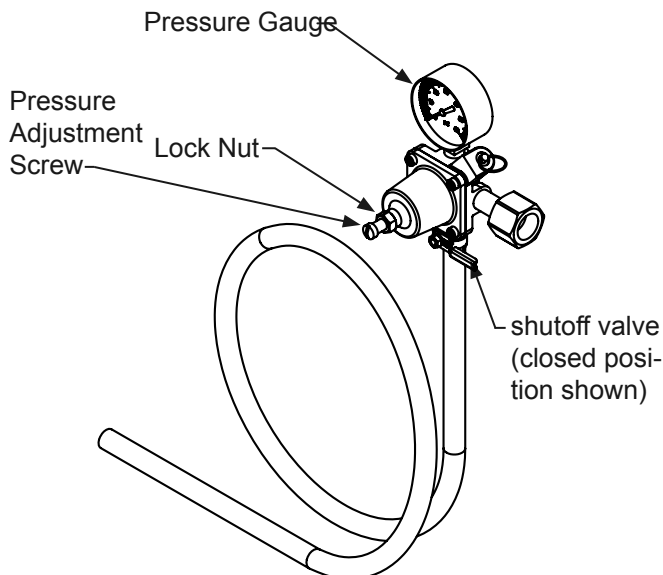

Figure 28 (Regulator for Single Dispense Tower)
2. Be sure the faucet handle is closed on the tower (see Figure 28).
Turn off the gas supply with the shutoff valve(s) under the regulator (see Figure 28 or 29) and open the faucet to relieve the pressure. To remove the faucet from the tower use the spanner wrench provided. Place the pin on the wrench into the hole on the faucet collar and turn clockwise to remove the faucet. (See Figure 34). Remove the knurled cap from the faucet body just below the handle and pull the handle assembly from the faucet. This will allow the shaft to be removed from the back of the faucet, see Figure 35.